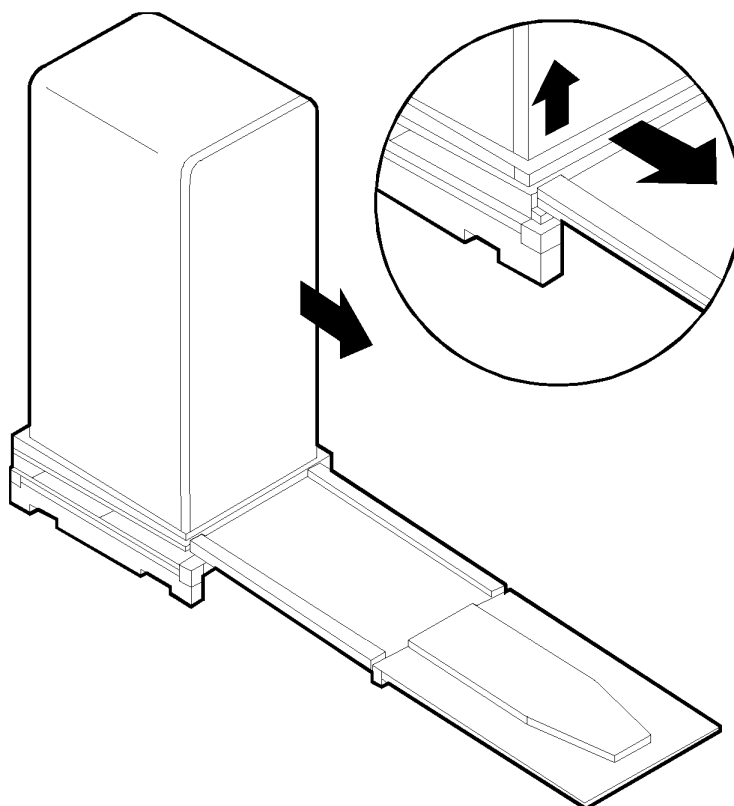

Figure 16 Positioning the Ramp
- 7** Remove the bolts (2), one on each side, from the shipping clamp at the bottom of the frame. They are bolted to the pallet.
- 8** Remove the clamp (3).
- 9** Unfold and position the ramp so that the block of wood under the ramp locks into the edge of the pallet, with the strip of wood forming a lip. This holds the ramp in place while the rack is moved across the pallet and down the ramp. See Figure 16.